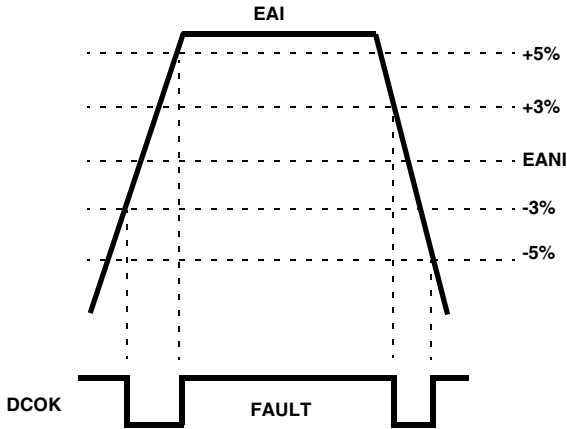

FIGURE 14. UNDERVOLTAGE-OVERVOLTAGE WINDOW
- DCOK pin is an open-drain output capable of sinking 5mA. It is low when the output voltage is within the UVOV window. The static regulation limit is $\pm 3\%$, while the $\pm 5\%$ is the dynamic regulation limit. It indicates power-good when the EAI is within -3% to $+5\%$ on the rising edge and within $+3\%$ to -5% on the falling edge, as shown in Figure 14.